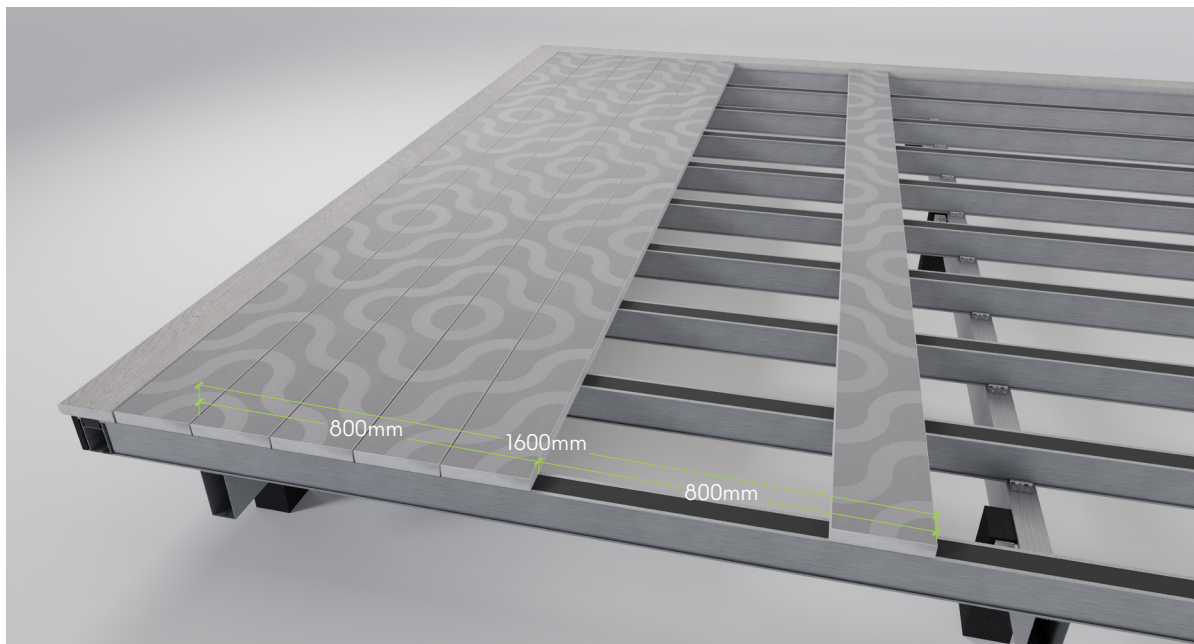

Fig. 7
7. Now that every 4th row (or depending on the pattern required) of decking has been installed parallel and with the ends of the boards set at the correct position, spaced correctly, it's time to infill the rest of the deck boards. (Fig.7)